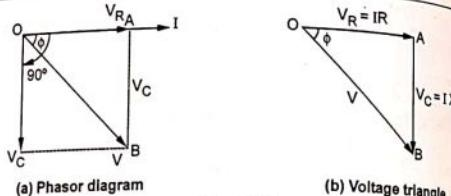

Fig. 3.6.2
• The phasor diagram and voltage triangle are shown in the Fig. 3.6.2.